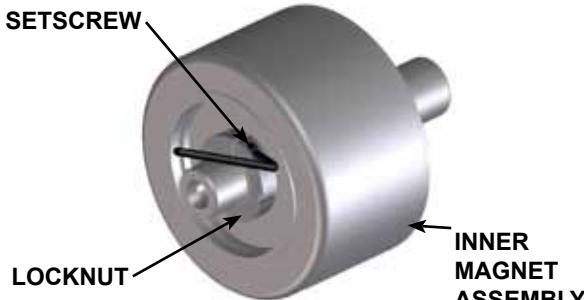

FIGURE 8
9. Visually inspect the outer magnets from the end of the bracket. If removal is necessary, separate the bracket from the motor. Remove the locknut (1), lockwasher (2) and outer bearing spacer collar (4) from the shaft. Slide the outer magnet assembly out of the bracket. Inspect the magnet assembly for damage or wear; replace if needed. If further disassembly of the bracket is required, see **"Disassembly / Assembly of Bracket Bearings"**, page 6.
10. Remove the socket head capscrews (54) from the canister (59). If the canister was not drained in Step 1, it will contain liquid. Use care when removing the canister from the pump by pulling it straight off. Inspect the canister bushing (64) for wear. If the canister bushing needs to be replaced, see **"Installation of Bushings"** on page 7.
11. Do not remove the O-ring from the plate adaptor (67) / canister unless it is bad, especially if it is PTFE (derivative) encapsulated. If a new O-ring is required, See **"Pump Assembly"** on page 7.
12. Insert a brass bar into the rotor (36) through a port between two rotor teeth and remove the split locknut (66), see **Figure 8**. Slide the inner magnet assembly off of the shaft. Make sure the outer thrust washer (60) does not come off with the inner magnet assembly. If the thrust washer hits the shaft key (62) it may crack or break. Do not forget this is a very strong magnet. Inspect the magnet assembly for damage or wear; replace if needed. If further disassembly is required, proceed to the next step.